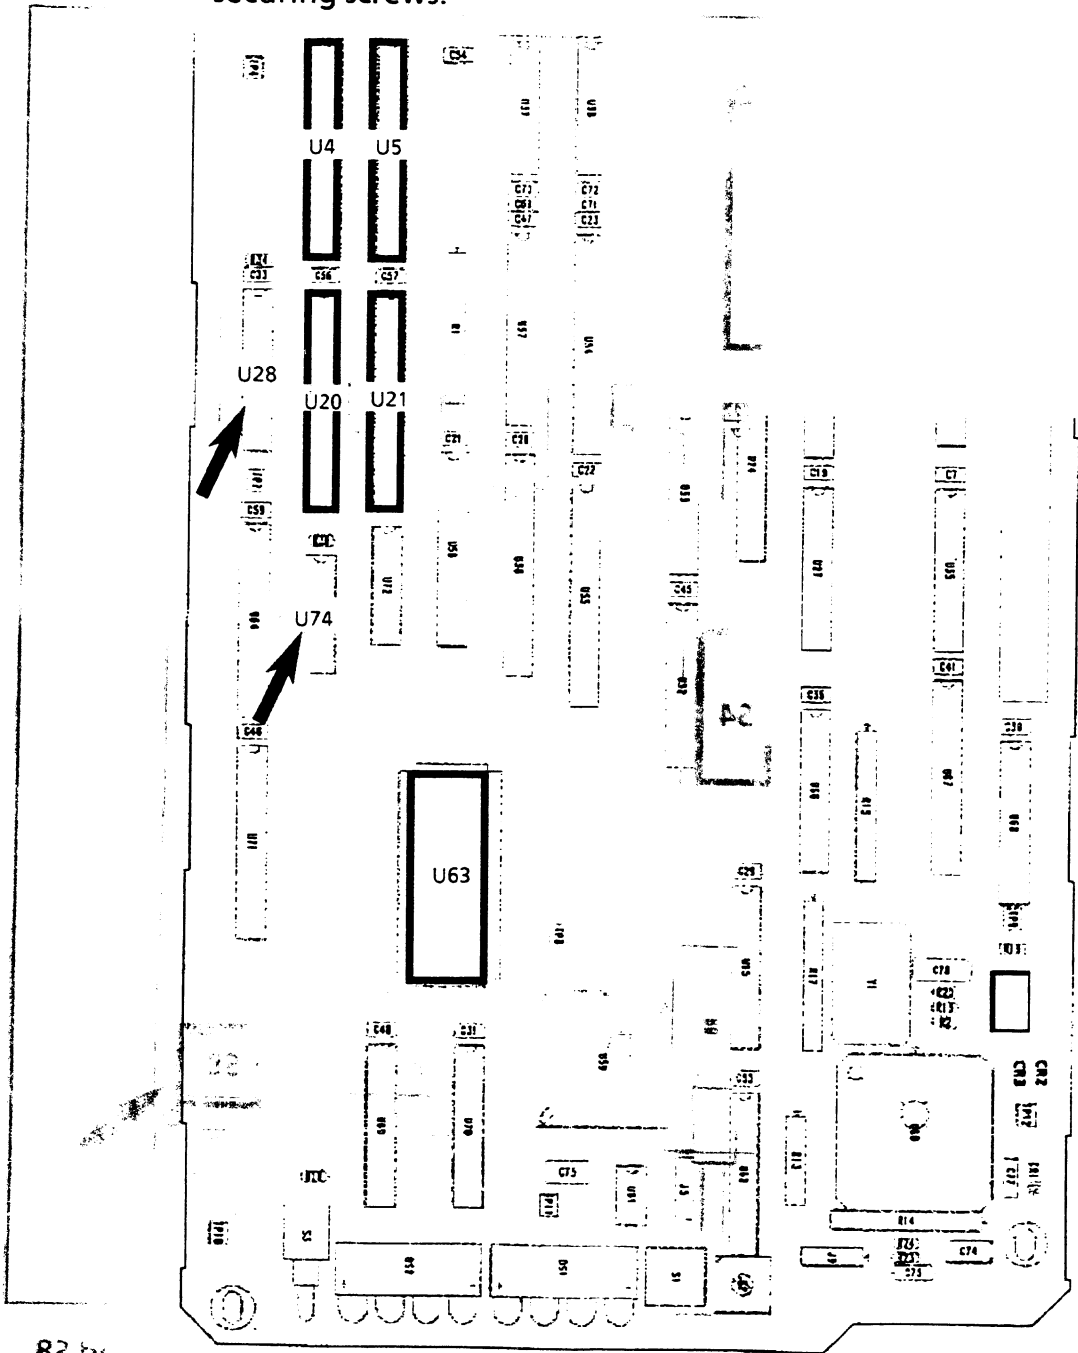

Fig. 5. Partial Memory Controller circuit board (A3) showing location of U4, U5, U20, U21 and U63.
- 13. Pivot the Remote Control circuit board (A6) up and to the right to expose the component side of the Memory Controller circuit board (A3) then make the following changes (refer to fig. 5):